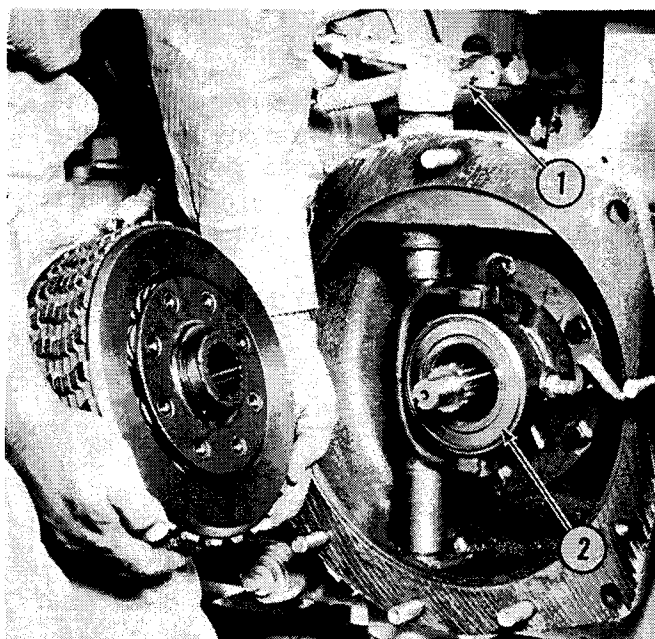

Fig. 8 — REMOVING STEERING CLUTCH ASSEMBLY
If clutch assembly is being removed to gain access to clutch release bearing only, and clutch is not to be disassembled, then the best method is to remove the clutch assembly intact. See Fig. 8.
2. Remove clutch release arm, No. 1, Fig. 8.